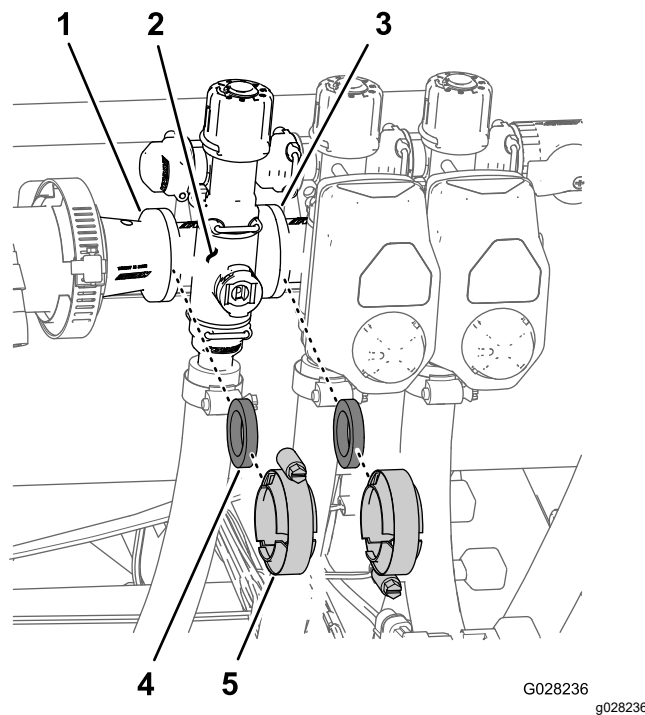

Figure 119
- Remove clamps and gaskets that secure the manifold for the section valve (Figure 119) to the adjacent section valve (if left section valve, and the reducer coupling).